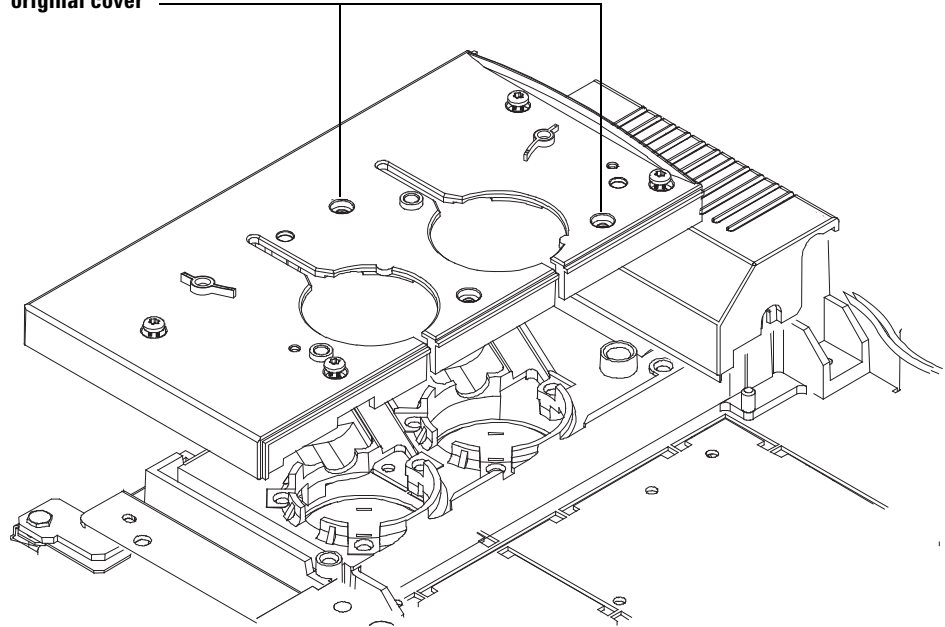

Figure 3 Replacing the injection port top cover and inlet fan cover (6890 Series GC)
- 4 Secure the replacement injection port top cover using two screws from the original inlet cover in the hole locations (Figure 3).